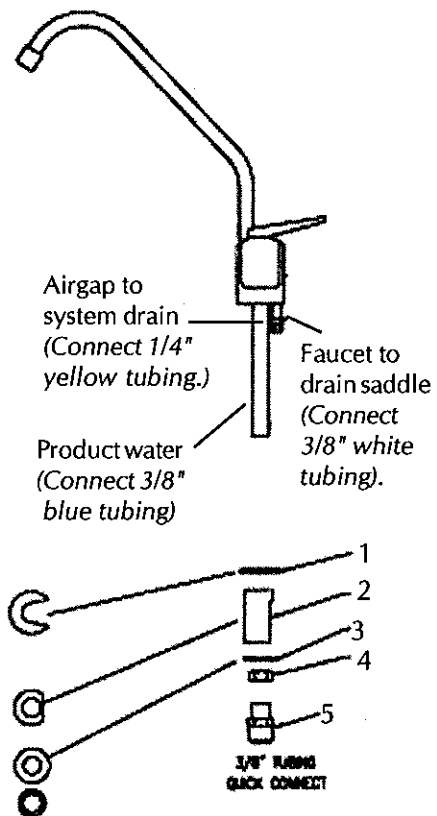

Fig. 6
4. Slip the 1/4" and 3/8" tubing through opening in polished faucet base (Item #1). Slide white plastic spacer (Item #2) open-end-up onto the threaded faucet stem (Fig 6)
5. Thread the 3/8" washer (Item #3) and mounting lock nut (Item #4) onto the threaded stem. (Fig 6)